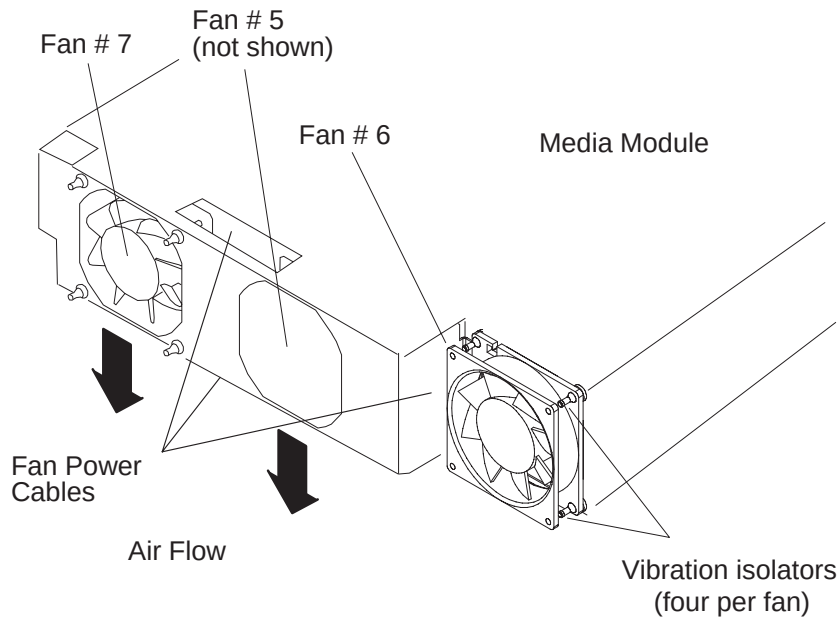
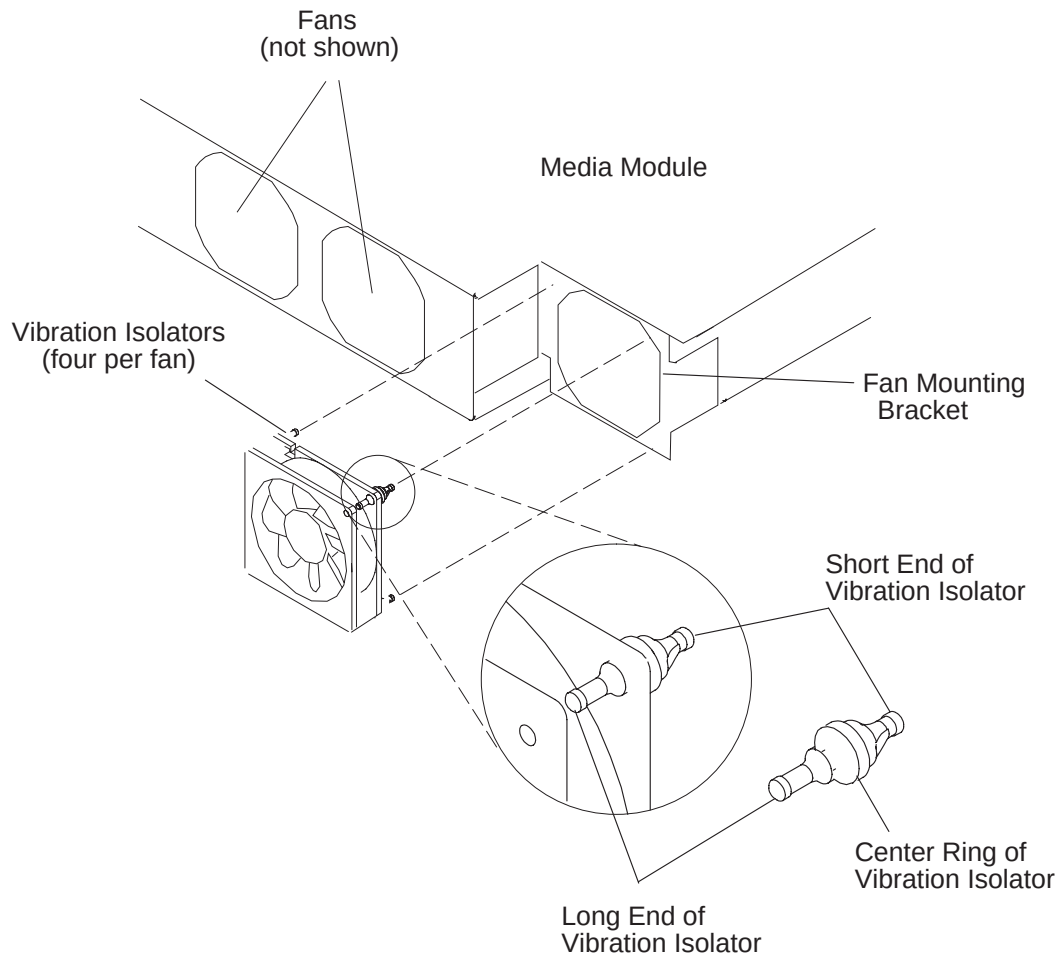

Figure 3-29. Removing the 604 or 604e High Node Media Module Fan
Figure 3-30. Replacing the 604 or 604e High Node Media Module Fan
3. Remove all four vibration isolators by pulling the fan, either downward or away from the media module, until the vibration isolators disengage from either the fan or the media module. See Figure 3-29 on page 3-42 and Figure 3-30 on page 3-43.